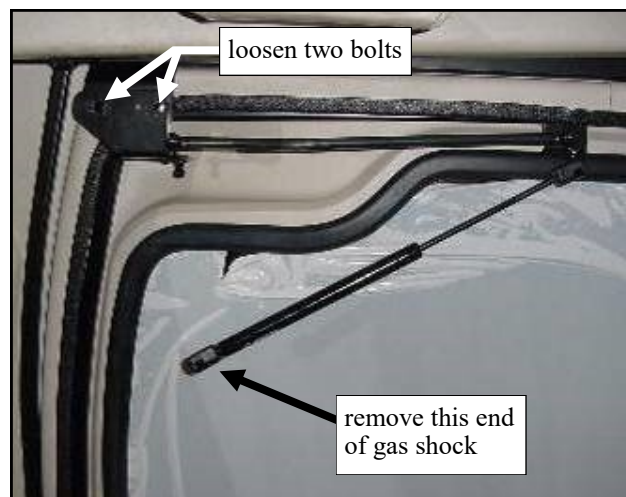

Fig. 11.1 (view from inside of driver's side door)
11.1 Per fig. 11.1, remove the sideframe end of the gas shock by releasing the metal clip and pulling the housing off the pivot ball. Loosen the two top pivot bolts. From the inside, pull the door grab handle and hold while retightening the two top pivot bolts. Reinstall the gas shock on the pivot ball.